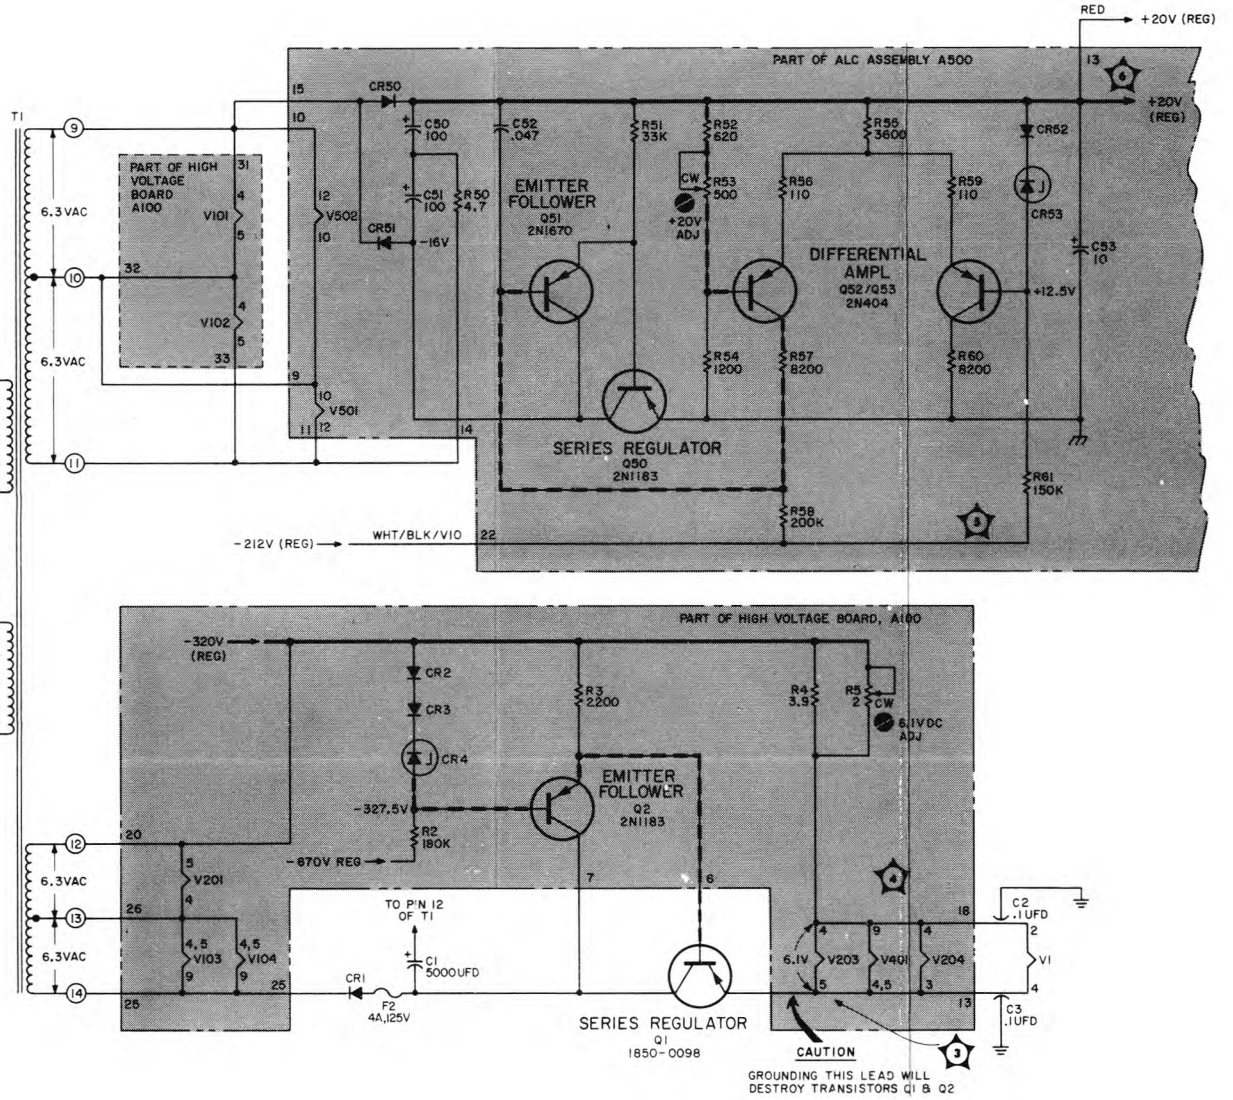

Figure 5-25. Regulated +20 Volt and Filament Supplies
Figure 5-25 and Parts List:
- CHANGE L: Figure 5-25 and Parts List:
- CHANGE N: Figure 5-25 and Parts List:
- CHANGE Q: Figure 5-25 and Parts List: